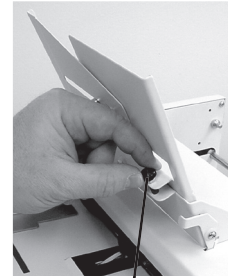

Fig 10b
4. If the fold is skewed, turn the skew adjustment knob located on the back of the feeder left or right to make corrections (Fig 10b).